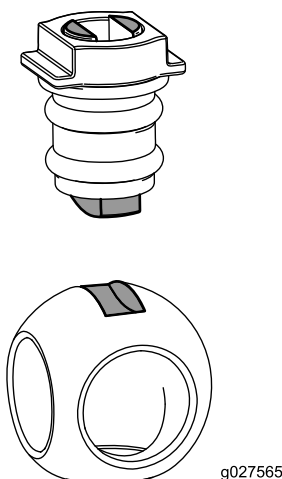

Figure 131
6. Insert the ball into the valve body (Figure 131).
Note: The valve stem should fit inside the ball drive slot. If the valve stem does not fit, adjust the position of the ball (Figure 131).